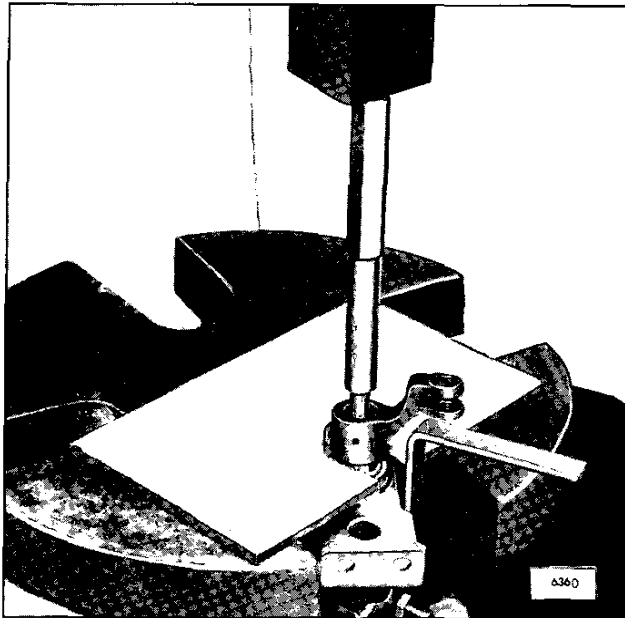

Fig. 6 - Press Old Lever off Control Tube
4. Remove the pin from the control lever and press the old lever off the control tube (Fig. 6).